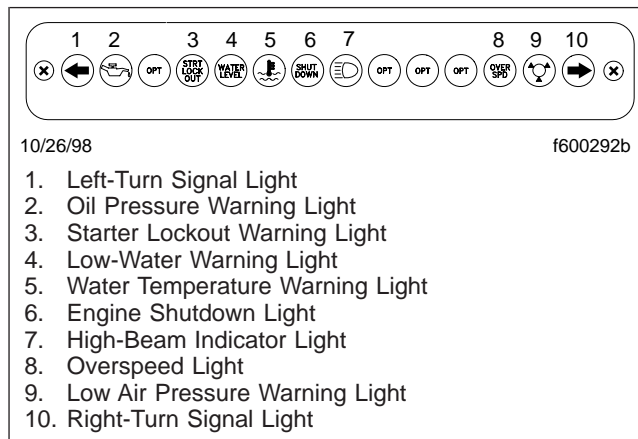

Fig. 2.23, VIGIL III Warning System, Optional
The VIGIL III system is an electronically controlled warning system with maximum vehicle speed control, vehicle overspeed reporting, and optional engine shutdown. It controls the turn signal functions and various optional functions. A solid-state lightbar (Fig. 2.23) in the instrument panel contains displays for the functions.
- If the engine overheats, a warning light (Fig. 2.23) comes on and a buzzer sounds. The temperature that triggers the warning light and buzzer varies with engine type and is programmed into the system at the factory. If the temperature continues to rise to critical levels, the engine shutdown light comes on, and the engine will shut down (if equipped with the shutdown feature).
The system operates the turn signal relay and the turn indicators (Fig. 2.23).
NOTE: If the lockout feature activates to let the starter cool, the starter lockout warning light (Fig. 2.23) will be on for the two-minute cooling period. If the lockout feature activates for any other reason, the light will glow only if the starter button is pressed within two seconds of the lockout occurring, and it will be on only as long as the button is pressed.
- The system features a speed governor for maximum vehicle speed control. The governor can be set anywhere between 45 and 85 mph (70 and 140 km/h), and controls vehicle speed by cutting fuel delivery pressure when the predetermined speed is reached. If this system is malfunctioning, the lightbar overspeed light (Fig. 2.23) will flash on for ten seconds each time that the engine is started.
The system also controls several functions such as headlight high beam indicator (Fig. 2.23), low air pressure warning light and alarm, and control for four optional features. The optional features can be any combination of the following or any four that are specially ordered: